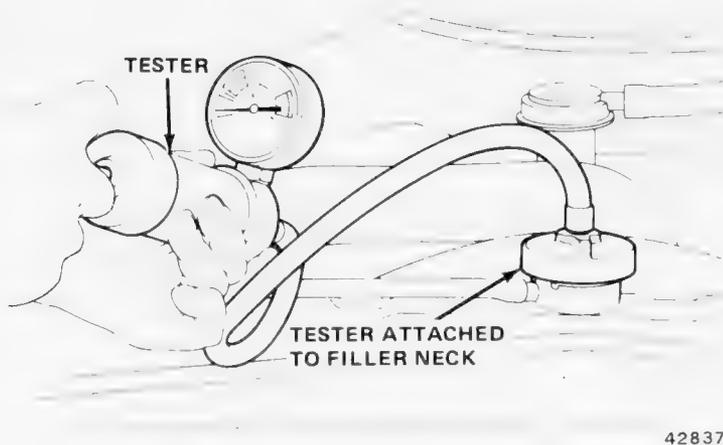

Fig. 1C-8 Cooling System Pressure Test
(2) Wipe inside of filler neck and examine lower inside sealing seat for nicks, cracks, paint, dirt and solder bumps.
(3) Inspect overflow tube for internal obstructions. Run a wire through tube to be sure it is clear.
(4) Inspect cams on outside of filler neck. If cams are bent, seating of pressure cap valve and tester seal will be affected. Bent cams can be reformed if done carefully.
(5) Attach pressure tester to filler neck (fig. 1C-8). **Do not force.**
(6) Operate tester pump to apply 15 psi pressure to system. If hoses swell excessively while testing, replace as necessary.
(7) Observe needle: